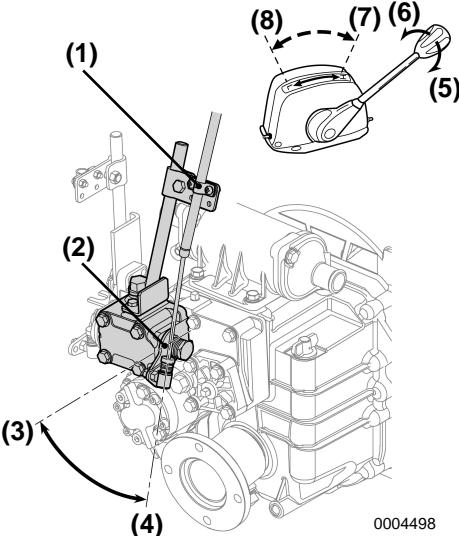

Figure 9
1. Ensure that the trolling lever (**Figure 9, (2)**) is in the high speed (**Figure 9, (4)**) position when the trolling remote control handle is in HIGH speed position (**Figure 9, (7)**).
2. Ensure that the trolling lever is in the low speed (**Figure 9, (3)**) position when the trolling remote control handle is in LOW speed position (**Figure 9, (8)**).
3. To adjust, loosen the adjustment screw of the cable fitting (**Figure 9, (1)**) and adjust the position of the cable.